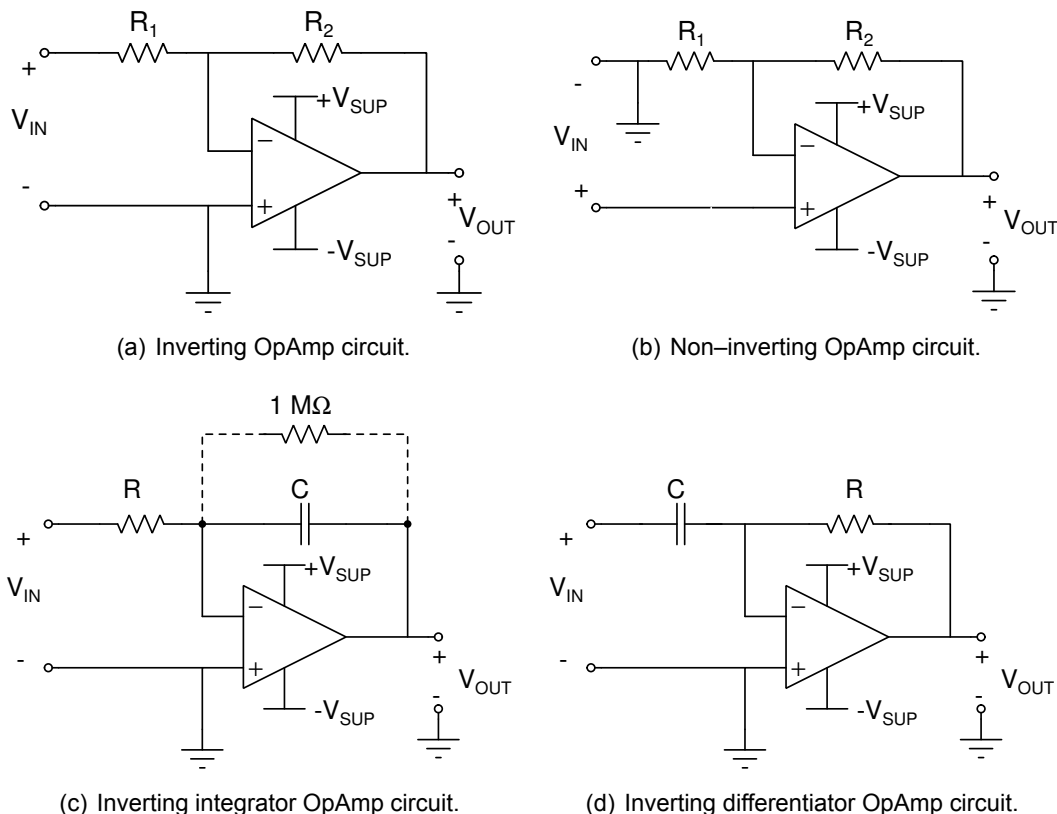
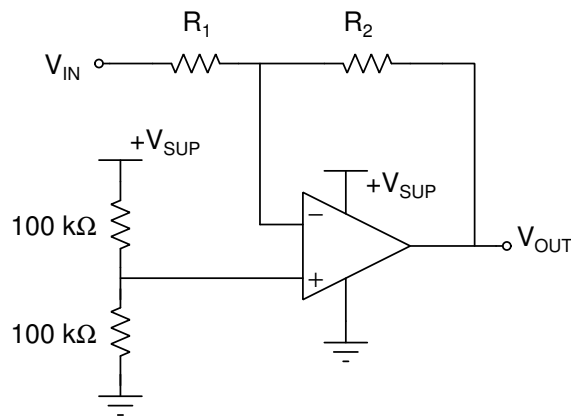

Figure 1: Four basic OpAmp circuits using negative feedback.
Figure 2: Inverting OpAmp circuit operated from a single power supply.
1. Review the ideal OpAmp circuits from ECE 210 and make sure you are able to calculate the $V_{OUT}(t)$ as a function of $V_{IN}(t)$ for each of the four OpAmp configurations shown in Figure 1. These OpAmps use dual-rail voltages, and negative feedback to achieve amplification within the active region of operation.
2. Design an inverting OpAmp circuit, shown in Figure 1(a), to produce a gain of -4.7 V/V.
4. Design a non-inverting OpAmp circuit, shown in Figure 1(b), to produce a gain of +8 V/V.
6. All OpAmp circuits can be modified to operate from a single rail voltage. This is illustrated for the inverting amplifier in Figure 2. In this circuit, $-V_{SUP} = 0$ V, and the non-inverting input (v_n) is biased at $+V_{SUP}/2$. Draw the schematic of the non-inverting OpAmp configuration shown in Figure 1(b) when operated from a single rail voltage.
- (c) Connect the function generator (FG) to the input of the OpAmp circuit. Adjust the FG to output a sine wave of 0.5 V_p at a frequency of 2 kHz. Connect one channel of the oscilloscope to the FG output and the other channel to the output of the OpAmp. What are the gain and phase shift of the output with respect to the input? How do these results compare with simulated predictions? Record the results in your notebook.
3. Build the inverting integrator circuit in Figure 1(c) with $R = 1 \text{ k}\Omega$ and $C = 0.1 \text{ }\mu\text{F}$. The $1 \text{ M}\Omega$ resistor across the capacitor provides a DC path from the output to ground. What is the relationship between V_{OUT} and V_{IN} for this circuit?
4. Build the inverting differentiator shown in Figure 1(d) with $R = 1 \text{ k}\Omega$ and $C = 0.1 \text{ }\mu\text{F}$. What is the relationship between V_{OUT} and V_{IN} for this circuit?